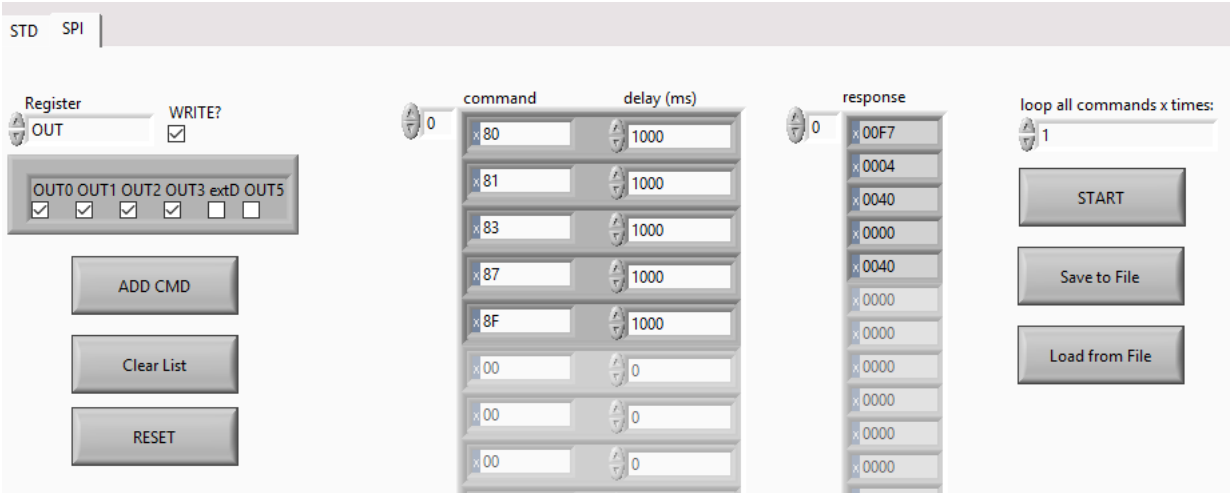

Figure 30 - response of SPOC™+2 to command sequence
- The response of the SPOC™+2 is shown in the response list (See Figure 30)